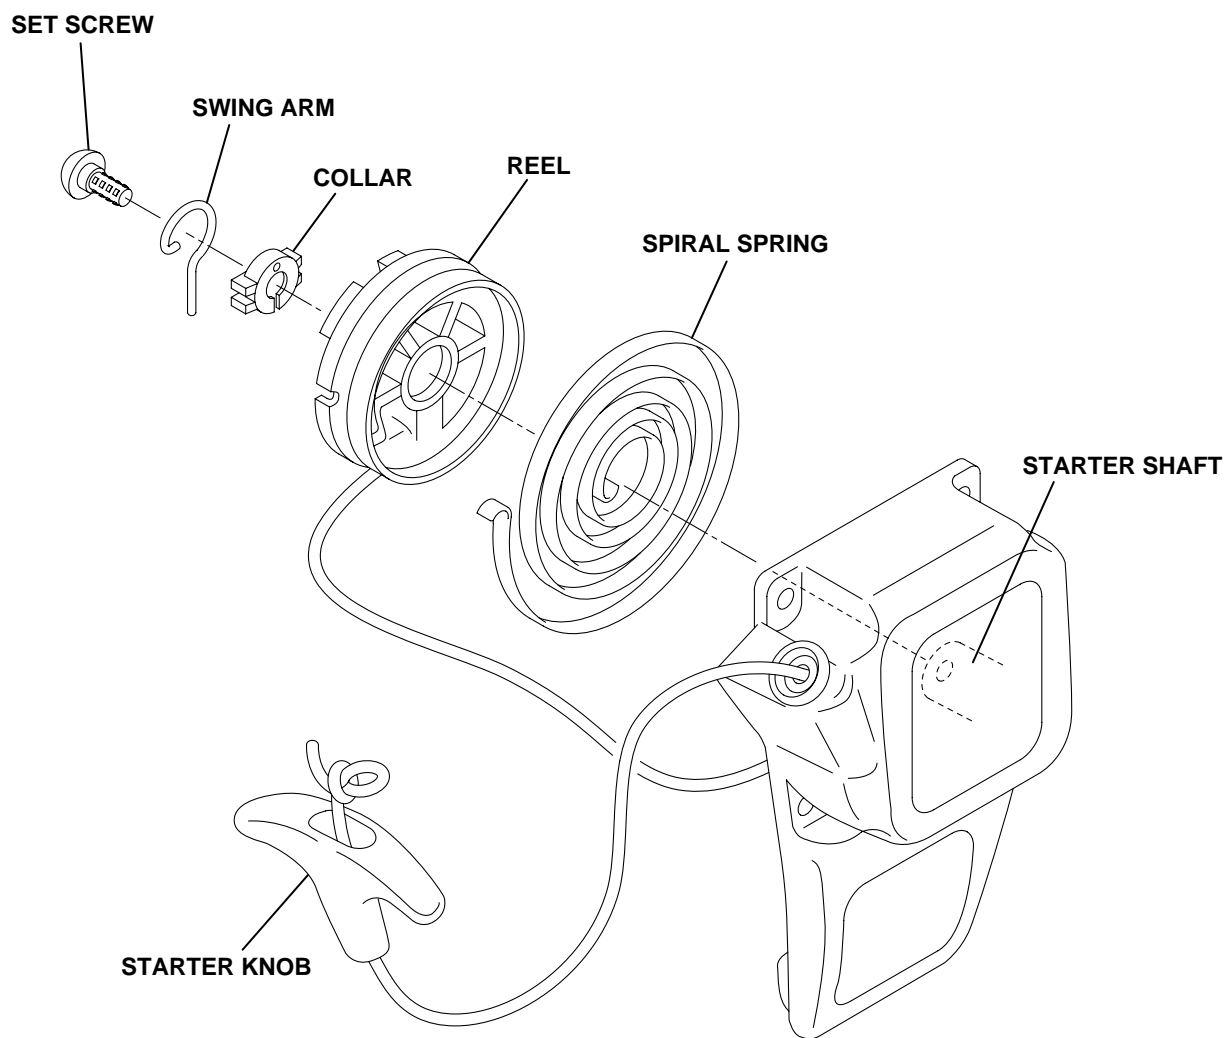
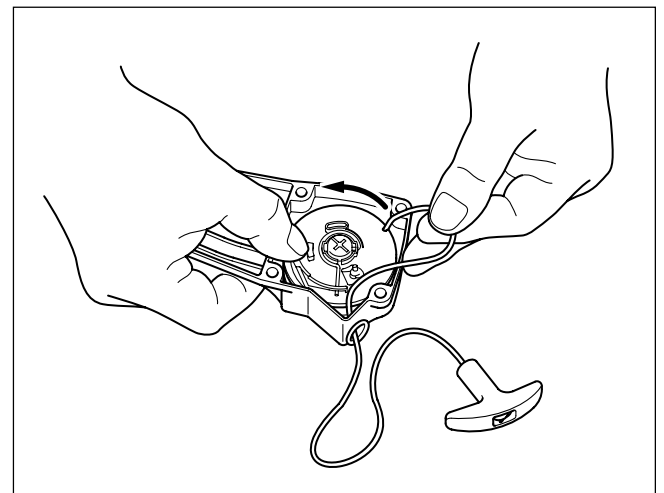

Fig. 9-2
Fig. 9-5
(3) Remove the parts as shown in Fig. 9-2.
- (3) Prior to installing the reel in the starter case, wind the starter rope to the reel in the arrow direction of Figure 9-5, take out the third turn of the starter rope from the reel notch and then install the reel securely inside the starter case so that the spiral spring inner end catches the hook. Next, hold the starter rope as shown in Figure 9-5, and rotate the reel 4 to 5 turns in the arrow direction by utilizing the reel notch. After winding the reel, hold it securely to prevent it from reverse turn and pull out the starter knob to stretch the rope tight and then release the knob slowly. Rassemble the parts in reverse order of disassembling shown in Fig. 9-2. Tighten the setscrew securely.